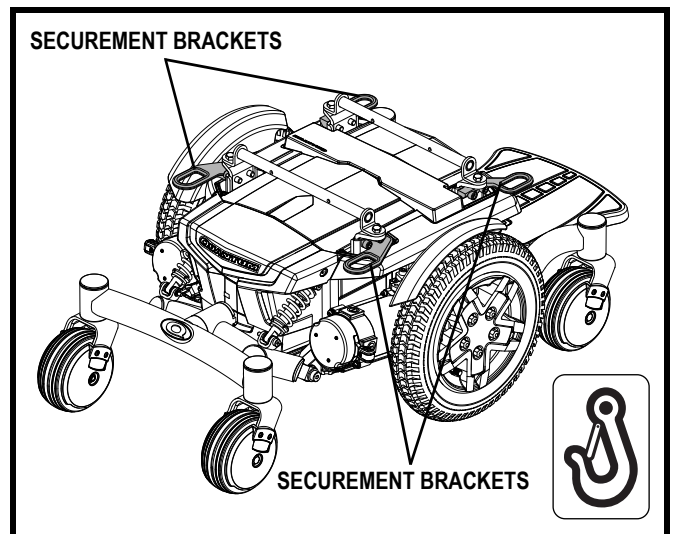

Figure 13. Transit Securement Brackets
- Attach the four tie-down straps only to designated, labeled transit securement points indicated by anchor symbols on the power chair. **See figure 13.** Tighten the straps to sufficiently remove all the slack.